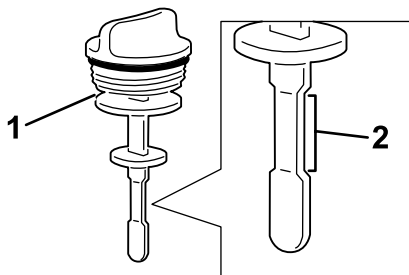

Figure 22
4. Remove the dipstick from the filler neck and check the fluid level. The fluid level should be within the safe operating range on the dipstick (Figure 22).